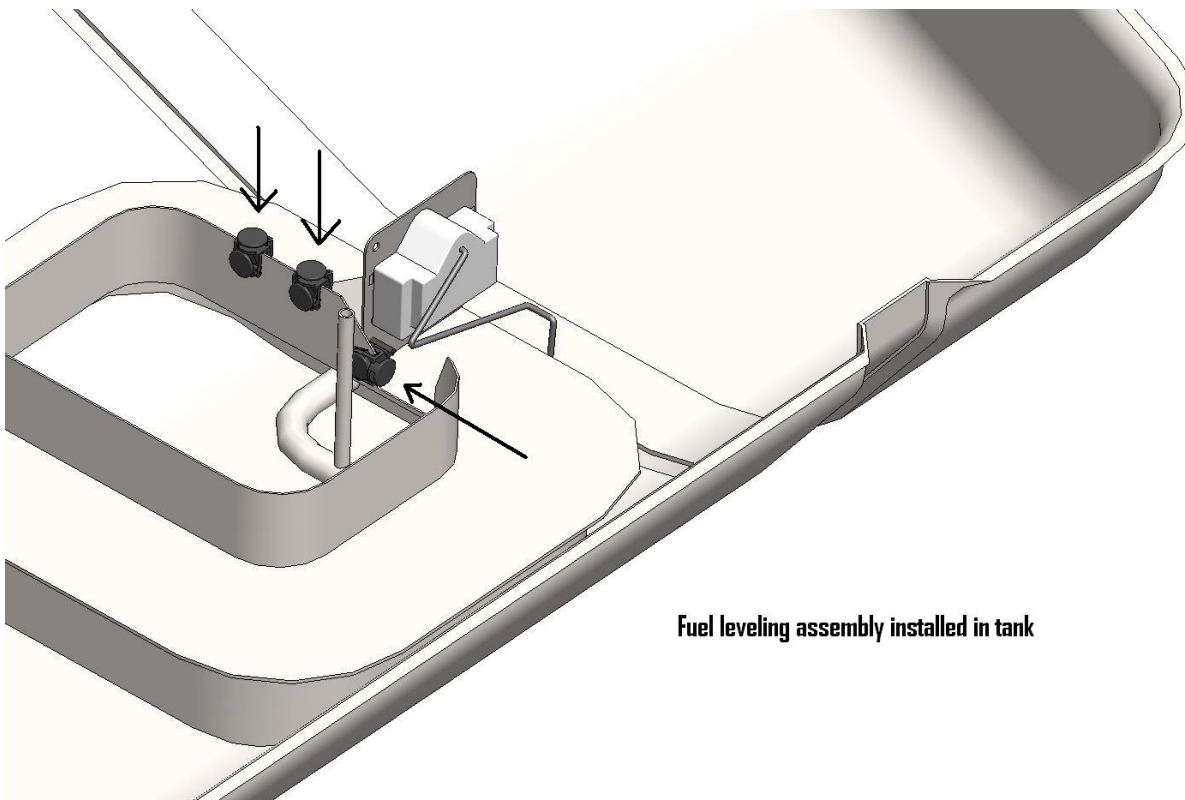

FIGURE 1-4
- 1-8. With the pump resting on top of the fuel tank, position the fuel level sender assembly into the tank as shown in **FIGURE 1-4** With the fuel level sender bracket and the baffle walls butted up against each other. Push the provided edge clips into position to secure the fuel level sending unit bracket to the top of the baffle inlet wall.